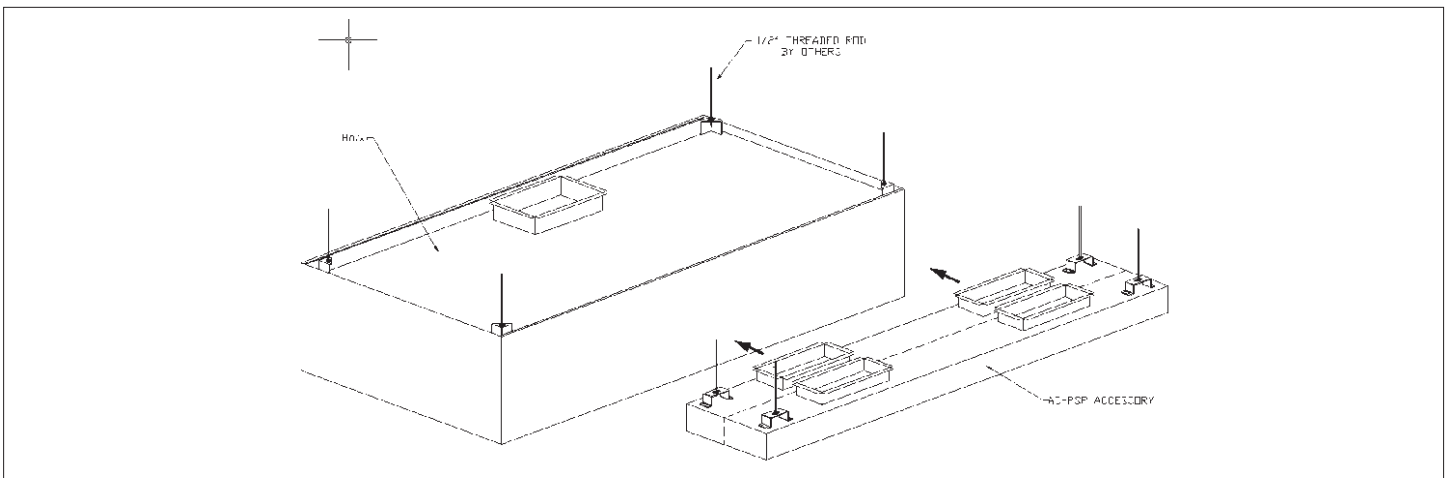

FIGURE 13A
6. Move the AC-PSP into position as indicated by the project submittal drawings; lining up the top edge of the AC-PSP with the top edge of the hood. Remove the protective plastic coating from the back of the AC-PSP. **See Figure 13a and 13b.**